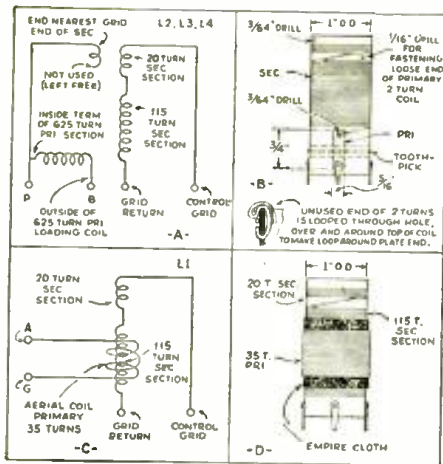

Fig. 2
- One antenna coupler (ready-made or as per Fig. 2), L1;
- Three R.F. transformers (ready-made or as per Fig. 2), L2, L3, L4;
- Two R.F. choke coils for broadcast band (manufactured, or as per Fig. 2), L5, L6;